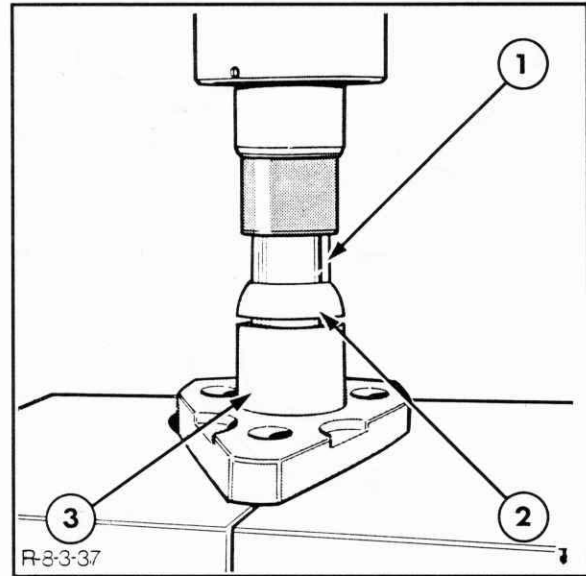

Figure 7-100
2. Press on new cone halves onto the swivel pins, ensuring that they are fully seated, Figure 7-100.